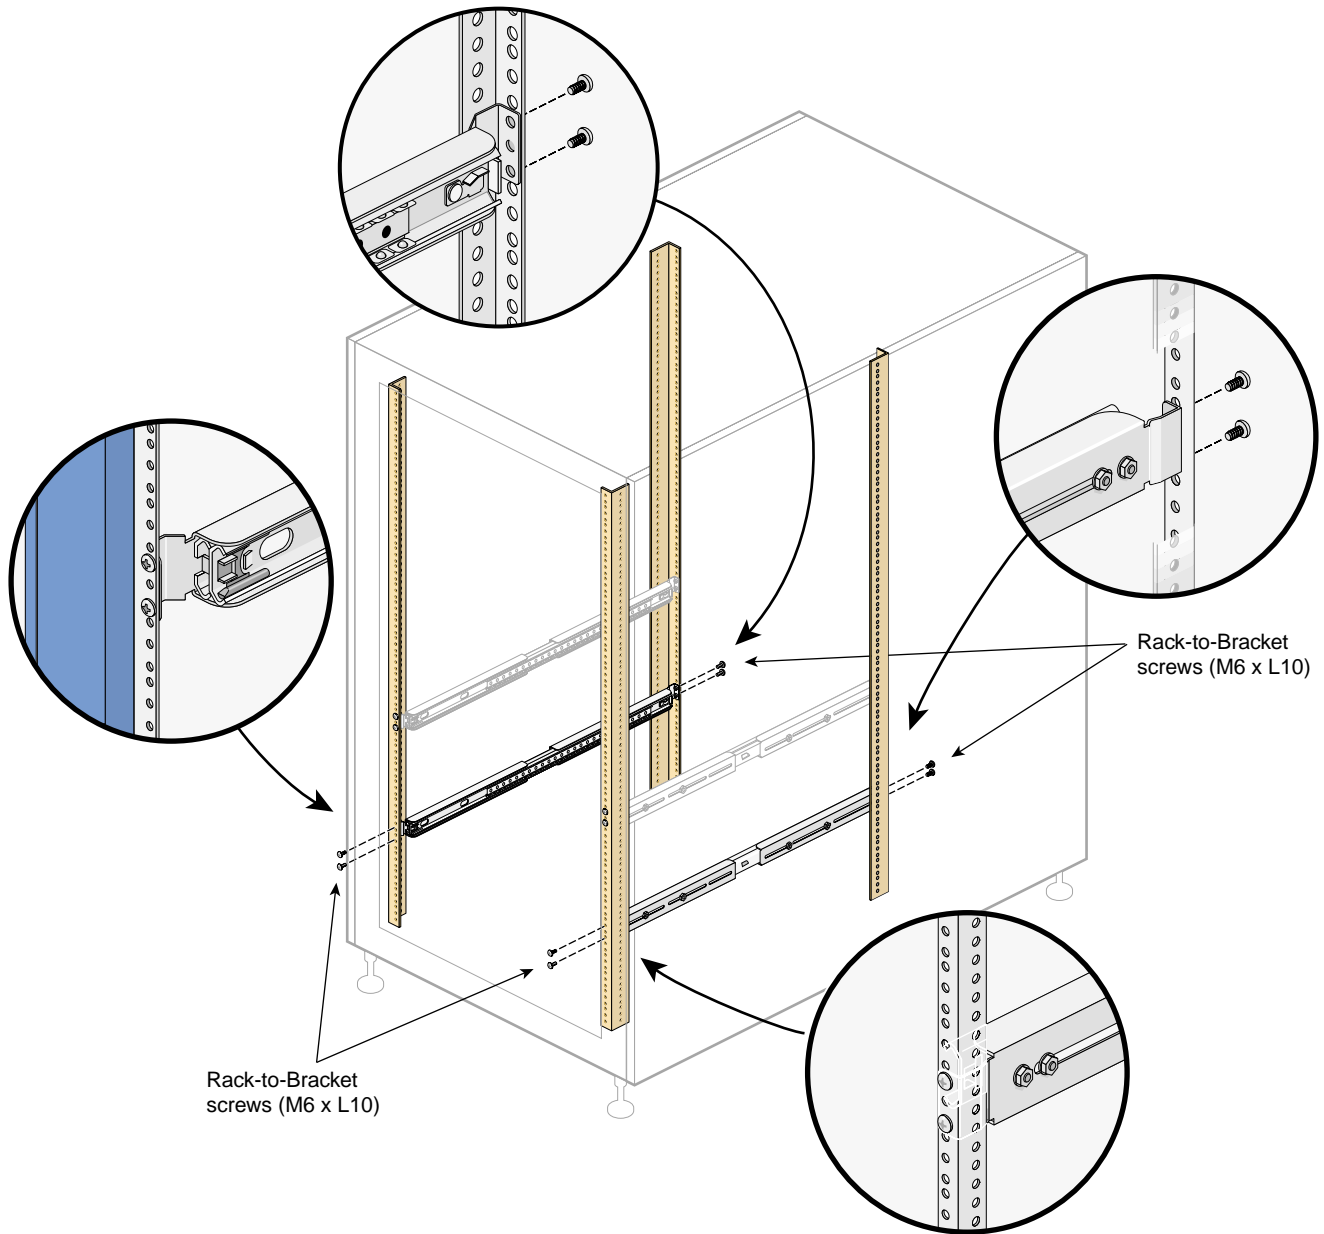

Figure 4-12 Attaching Slide Rails to Rack
4. Install the slide rails in the rack, as follows (see Figure 4-12):